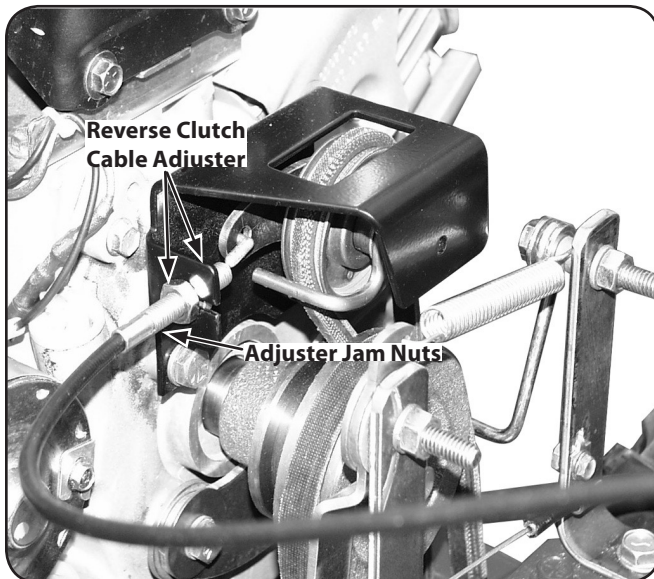

Figure 6-9
3. Reverse belt tension adjustments are done with the reverse clutch cable adjuster located on the left side of the machine near the engine. See Fig. 6-9. Use two ½" open-end wrenches to loosen the two adjuster jam nuts a few turns.